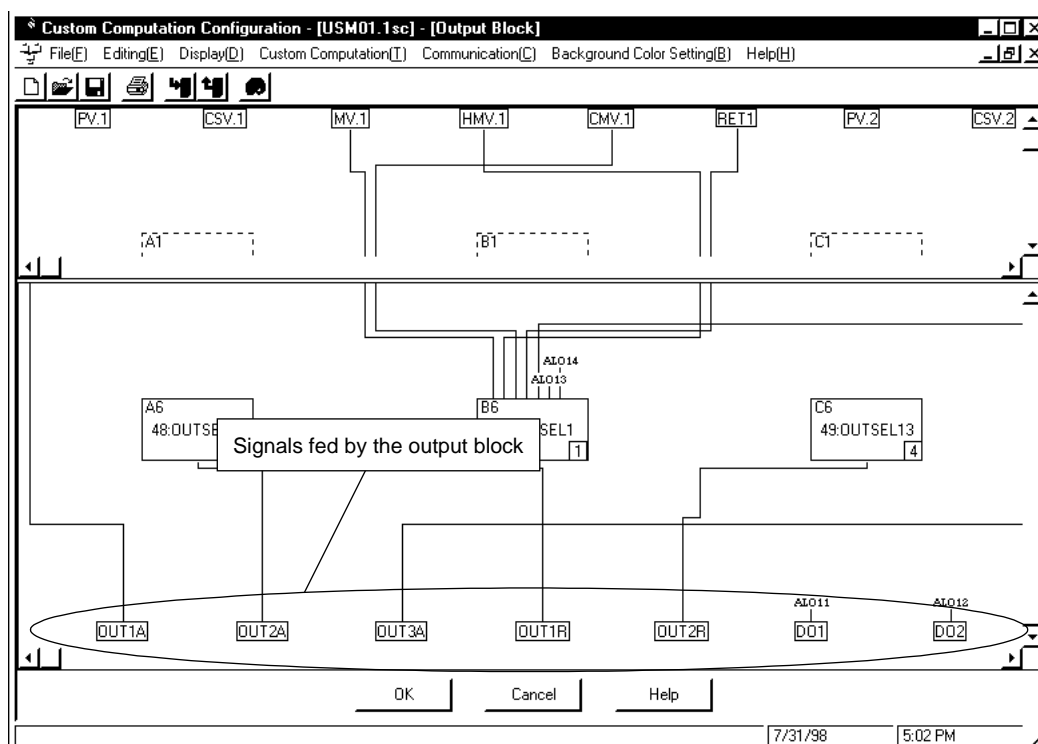

Figure 6.1.10 Output Signals Fed by the Output Block
- ① In the [Output Block] dialog box (Figure 6.1.10), click the appropriate output signal.